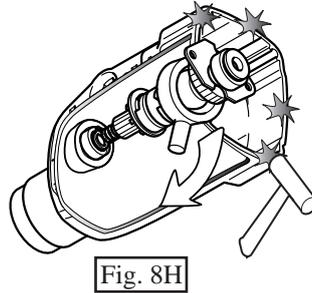

Fig. 8H
1. Referring to at page 8, disassemble the product in the order of Fig.4, Fig.4A and Fig.4B at page 8. And separate inner housing together with tool holder section and swash bearing section from gear housing as illustrated in Fig. 8C. Ball bearing 606ZZ can remain in gear housing in this stage. If so, refer to Fig. 8H at page 13.
- Reassemble swash bearing section temporarily to gear housing, and hold gear housing as illustrated in Fig. 8H. So, swash bearing section tilts in the direction of arrow. Keeping the illustrated position, disassemble swash bearing section by striking the edge of gear housing with plastic hammer. So, ball bearing 606ZZ can be removed together with swash bearing section.